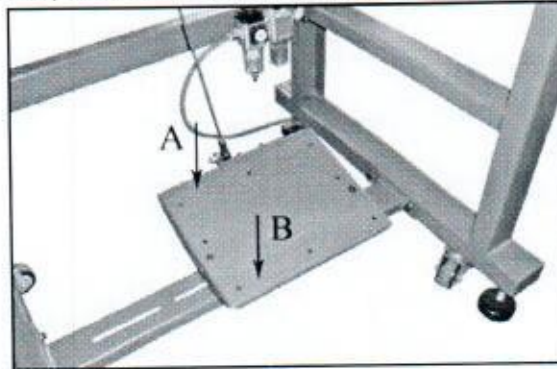

Fig.2
3.2 Start pedal (Fig.2)
First of all, switch on the main switch of the machine to check if the rotation of the motor conformable to the red arrow on the belt cover. Then operate the start pedal in three different movements. (Fig.2)